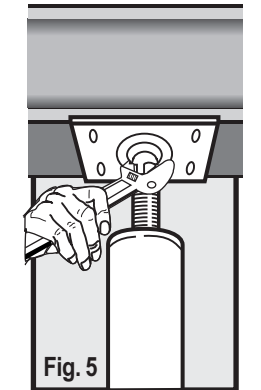

Fig. 5
5. Place plate on top of screw with flat side up. Use adjustable wrench to complete adjustment. (Fig. 5)